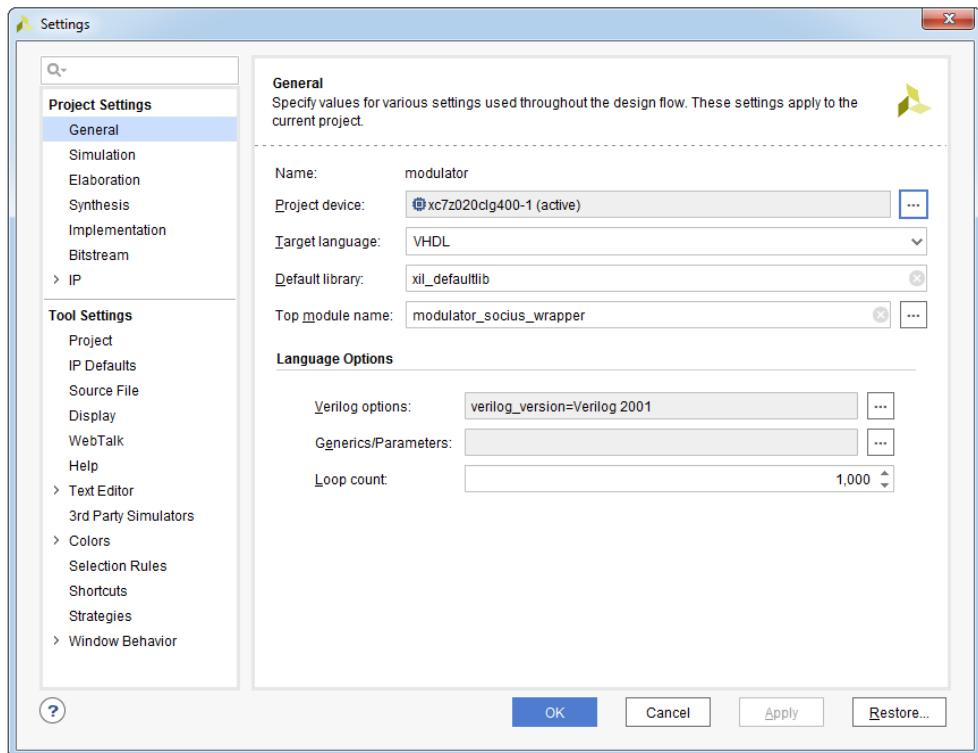

Figure 10.54: Project Settings dialog box
- In the **Settings** dialog box, click on the icon beside **Project device** field to browse the another development board, see Figure 10.54.